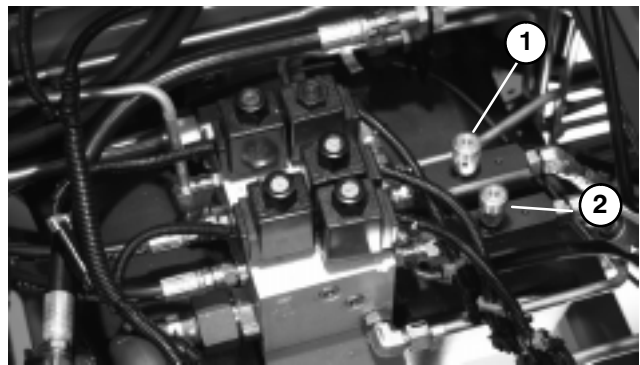

Figure 8
2. Locate valves under seat for adjusting front cutting units (Fig. 8).